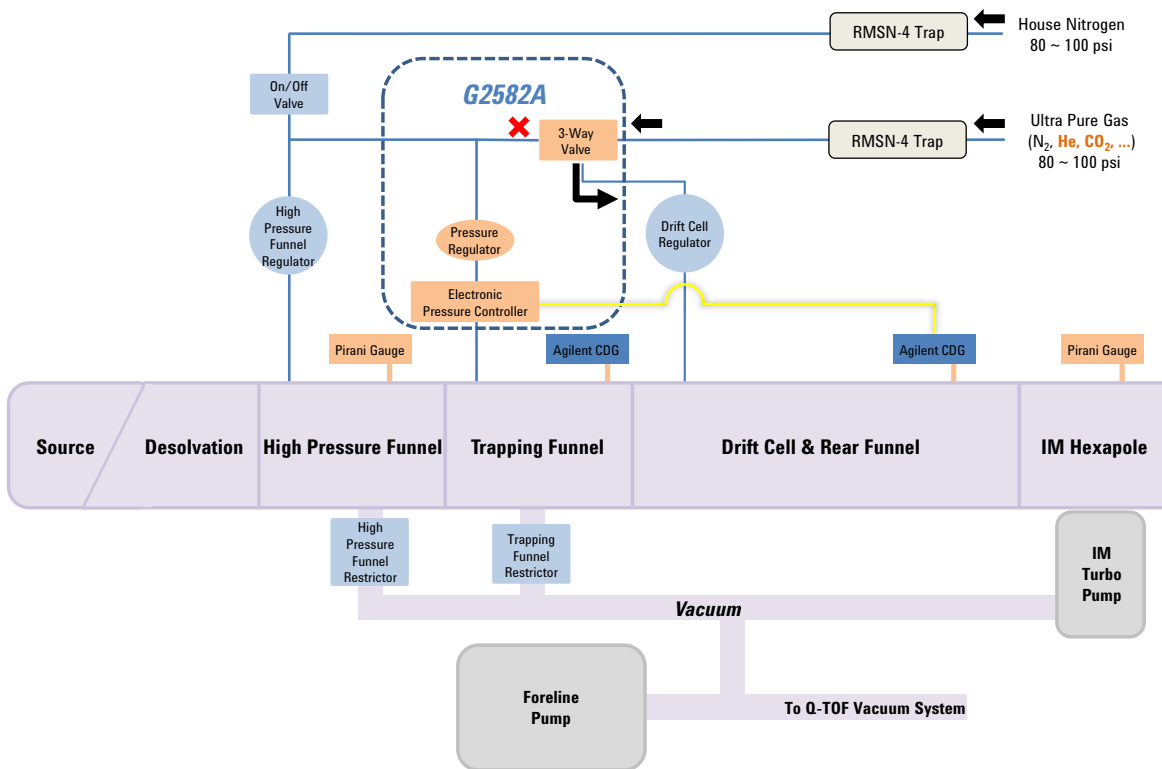

Figure 5 Gas plumbing for the IM section of the IM-QTOF instrument to use High Purity drift gas
- 2 Turn the 3-way valve to the **High Purity Drift Gas** position. See Figure 5.